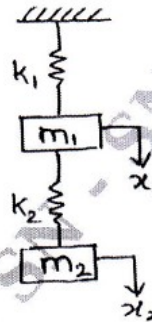

Fig. Q7 (a)
- 7 a. A two degree of freedom vibrating system is shown in Fig.Q7 (a). Determine the two natural frequencies of vibrations in a system. Given $m_1 = 2$ kg, $m_2 = 1$ kg, $K_1 = 40$ N/m, $K_2 = 20$ N/m. (10 Marks)